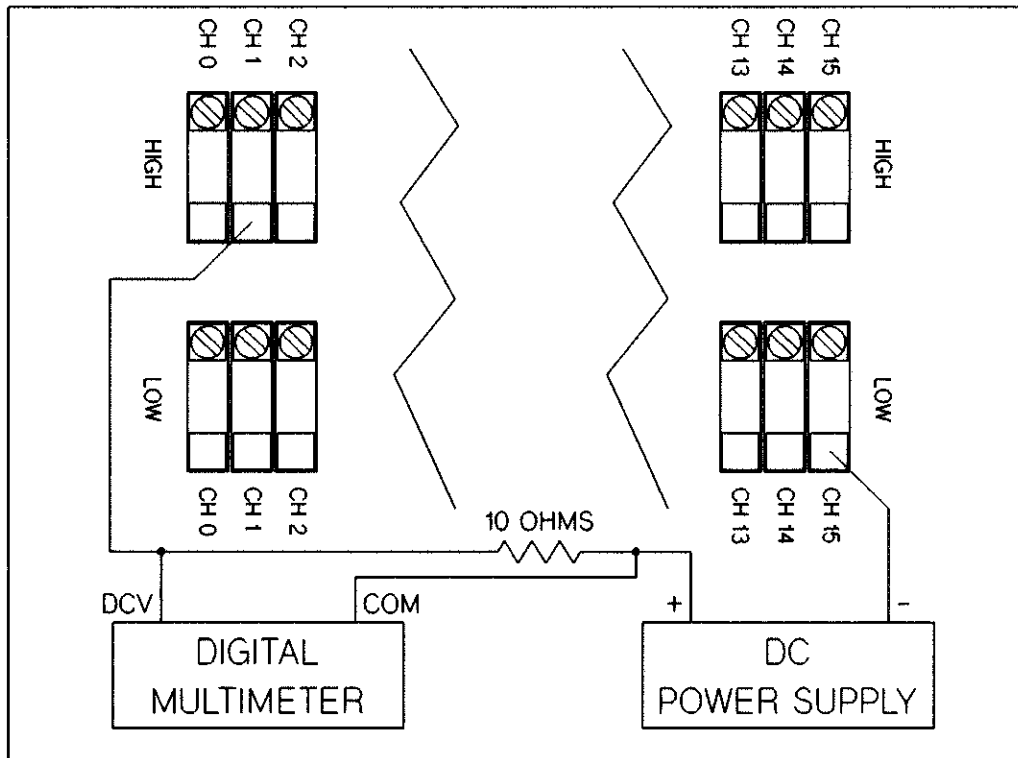

Figure 13-9 Odd Channel Sink Current Test Set-Up
13. Connect the 10 ohm resistor (**R**) between the power supply + output and the odd channel HIGH connections on the test fixture. Connect the DCV (HI) input of the multimeter to the shorted odd channel HIGH connections on the test fixture. Connect the multimeter COM (LO) input to the + output on the power supply. The connections are shown in Figure 13-9.